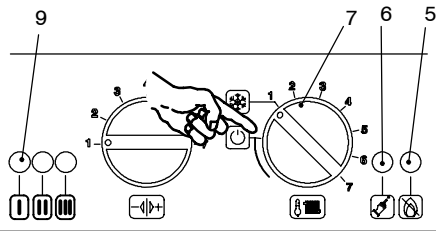

Fig. 7.3
- 2 Turn the function selector 7 as in Fig. 7.3. The appliance operation light 9 will flash every 2 seconds.